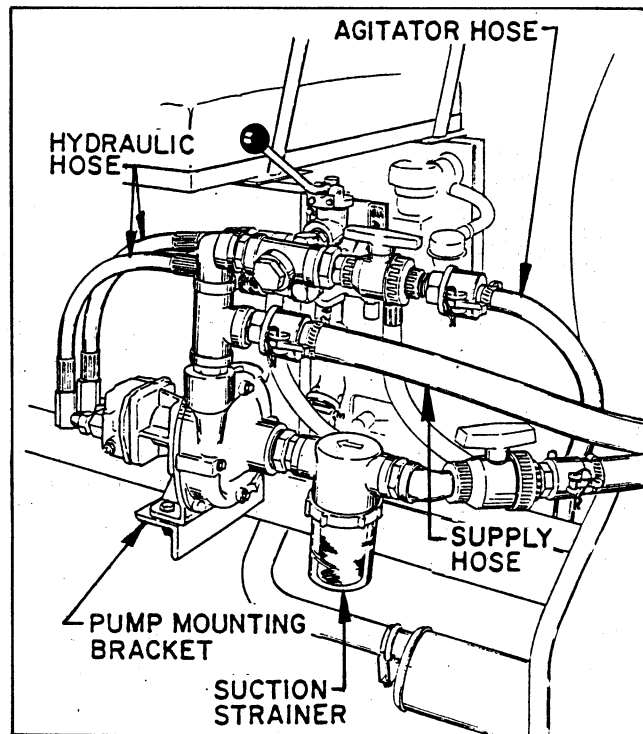

FIG. 2
■ Apply thread sealer and install the Fittings, Ball Valves and Qwik-Couplers as shown in FIG. 2, to connect the Supply, Suction and Agitator Hoses.